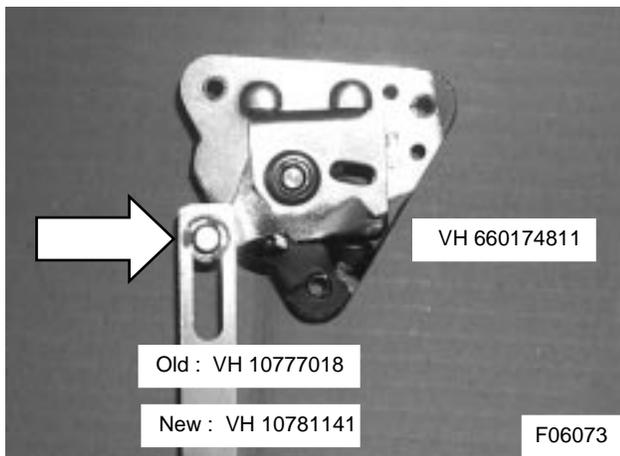

Figure 11: Emergency handle cam assembly and pull rod
- 6) Undo and remove the three flat head Allen screws securing emergency handle cam assembly VH 660174811 (see Figure 11) to the door frame.
- 8) Remove the snap ring securing emergency handle pull rod VH 10777018 to the cam assembly (see Figure 11). Discard the pull rod and the snap ring.